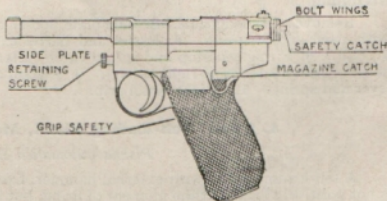

FIG. 2.—9 MM. S.L. PISTOL 910
3. 9 mm. Self-loading Pistol, Mod. 910—Glisenti. (See Fig. 2)